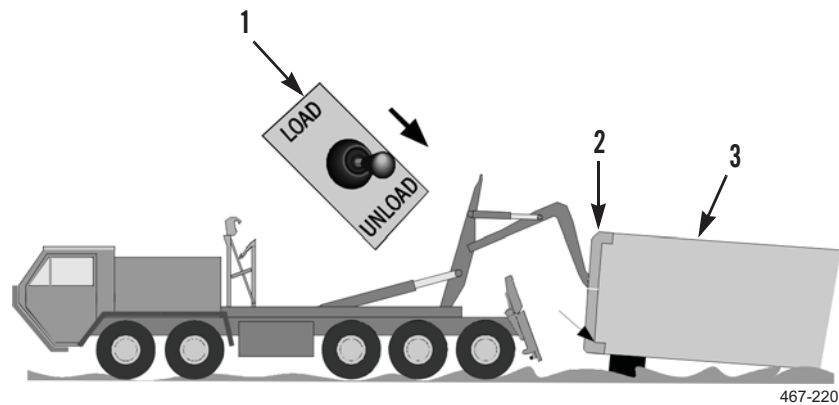

Figure 13. Lower Guides Aligned with Lower Castings.
11. Keeping engine at idling speed, set joystick (Figure 13, Item 1) to UNLOAD to lower lift frame (Figure 13, Item 2) on container (Figure 13, Item 3).
12. Release joystick (Figure 13, Item 1) when locking-pin holes in lower guides are aligned with lower corner castings of container (Figure 13, Item 3).